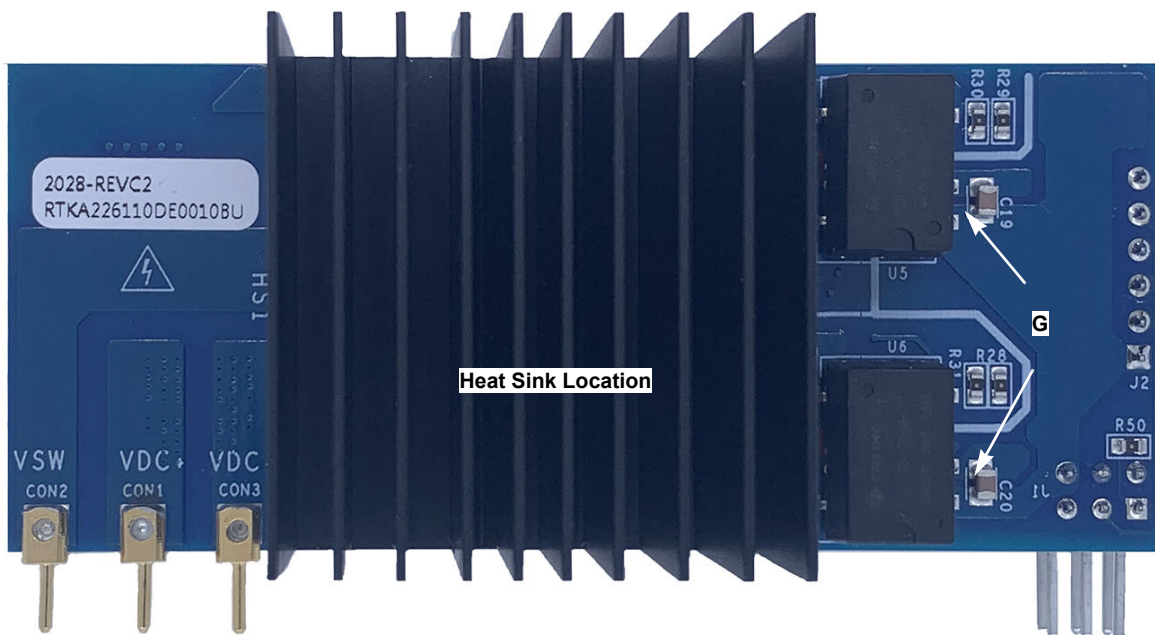

Figure 11. RTKA226110DE0010BU Bottom Side
- A thermal tape type TIM (Bergquist® Bond-Ply 100) is chosen for its easy assembly. The supplied heatsink has the thermal tape pre-applied so simply peel off the protective film and attach the heatsink to the back of board as marked in Figure 11.